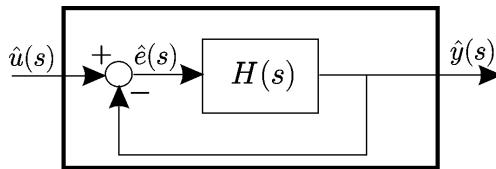

Figure 4.5: Looped system
- 3) Let us loop the system $H(s)$ as shown on Figure 4.5.